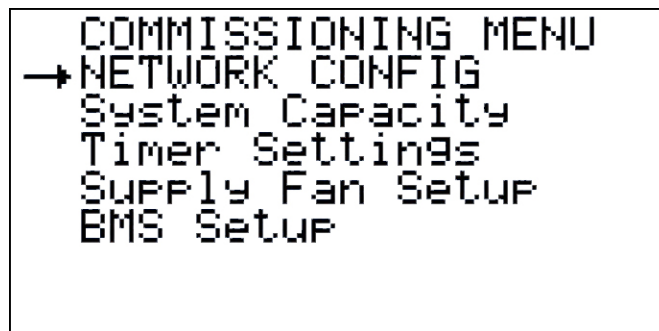

Figure 28
2.3.3.1 Commissioning (Figure 28)